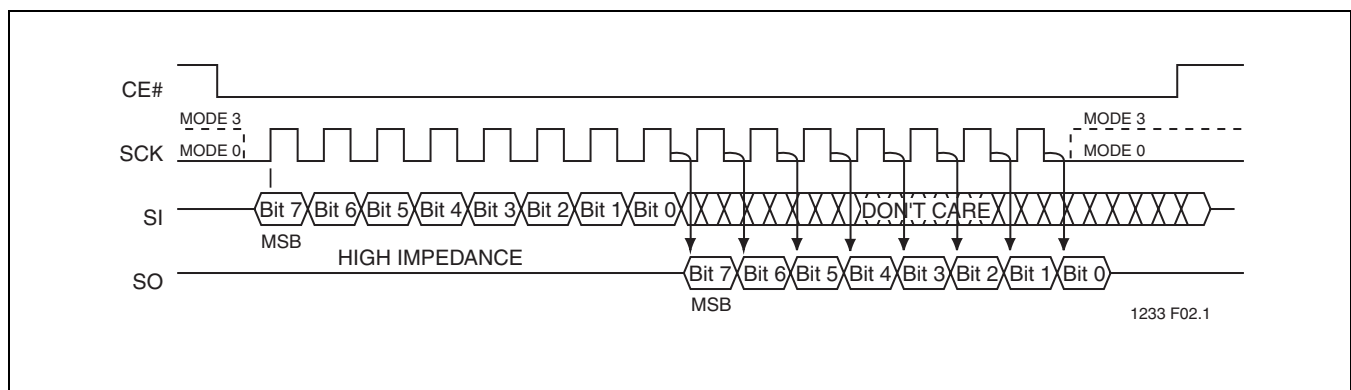

FIGURE 2: SPI PROTOCOL
The SST25VF010 supports both Mode 0 (0,0) and Mode 3 (1,1) of SPI bus operations. The difference between the two modes, as shown in Figure 2, is the state of the SCK signal when the bus master is in Stand-by mode and no data is being transferred. The SCK signal is low for Mode 0 and SCK signal is high for Mode 3. For both modes, the Serial Data In (SI) is sampled at the rising edge of the SCK clock signal and the Serial Data Output (SO) is driven after the falling edge of the SCK clock signal.